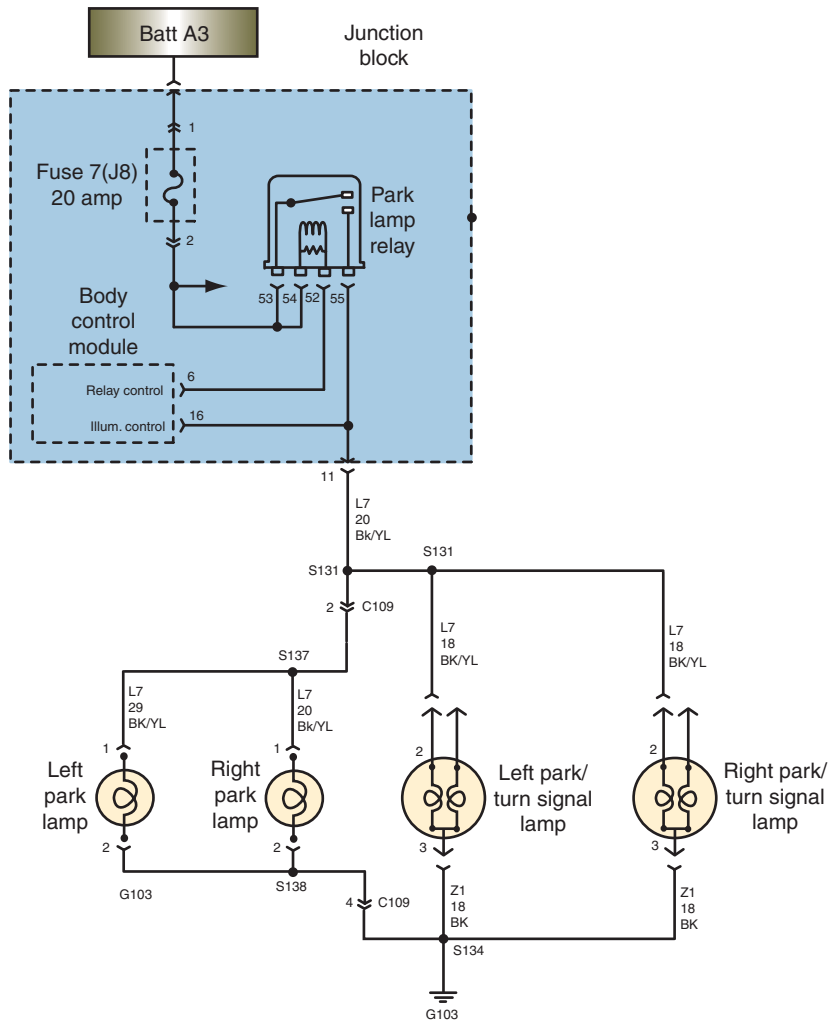

FIGURE 4-35a
9. Referring to the wiring diagram illustrated in Figure 4-35a through d, the fog lights do not work when the headlight switch is in the AUTO position, but work in the HEAD and PARKLAMP positions. What is the most likely cause?